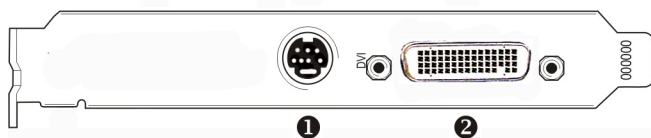

Figure 6
10. Connect your Coronis 5MPs to the display controller(s) for your BARCO CORONIS 5MP Display System using the cables supplied. Make sure all cables are securely connected before turning on your system. Figures 6 - 10 show the types of connections are available: